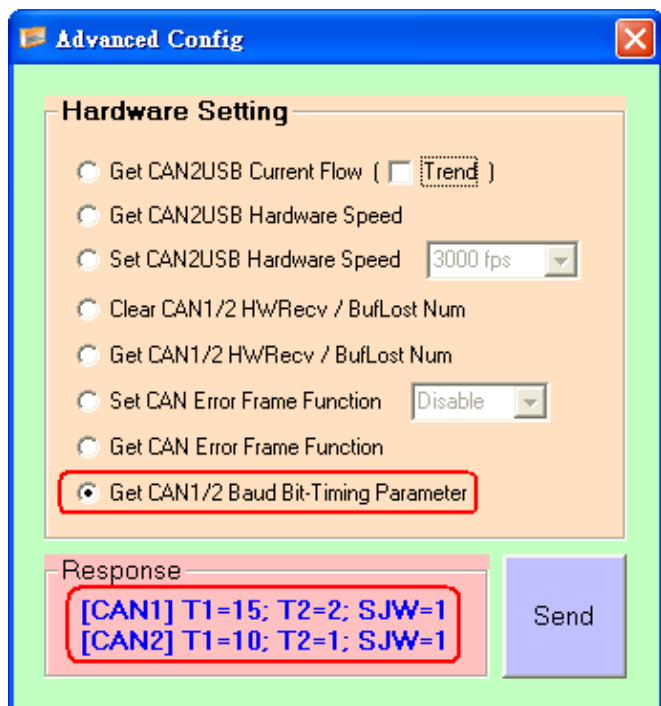

Figure 14-2 "T1, T2 and SJW" values
- (2) Show the Bit-Timing parameters including T1, T2 and SJW values used in I-7565-H1/H2 module like Figure 14-2.